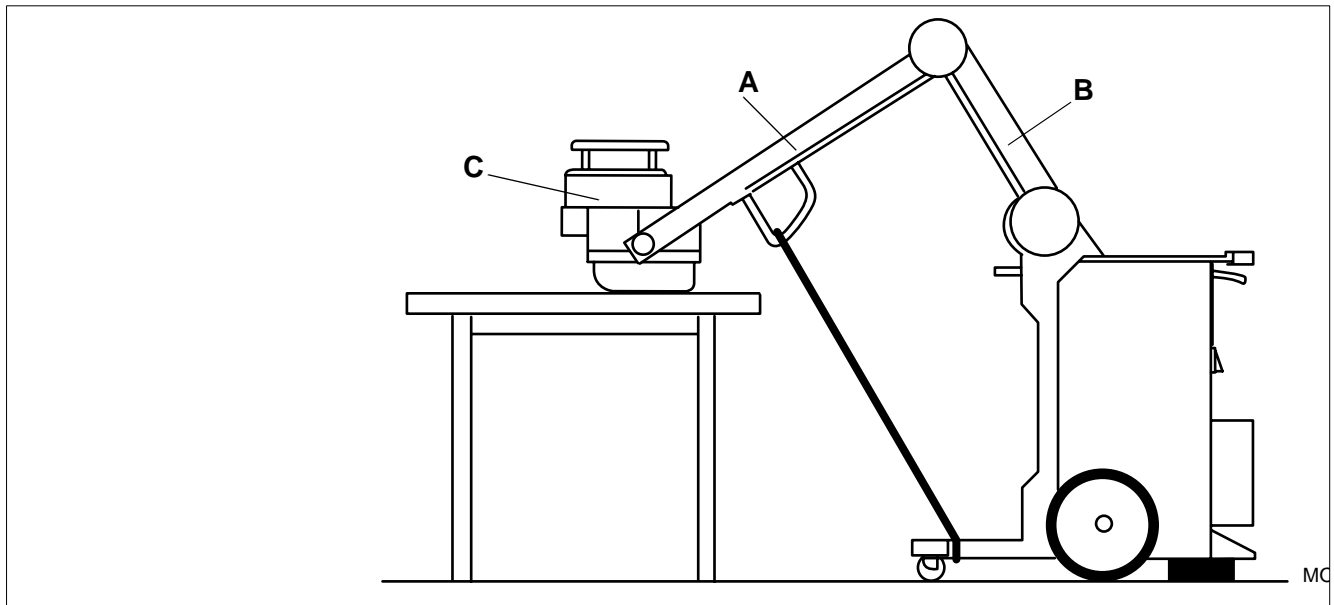

Fig. 21
- Position the unit with the single tank resting on a table. Secure the support arm with a piece of rope (Fig. 21).